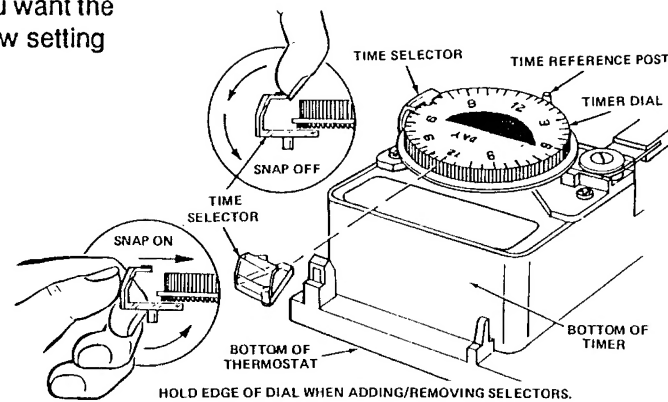

Figure 2. Removing/replacing timer selectors.
1. To remove the timer selectors, turn the dial counterclockwise until the selector to be removed is at the bottom of the dial (see fig. 2).